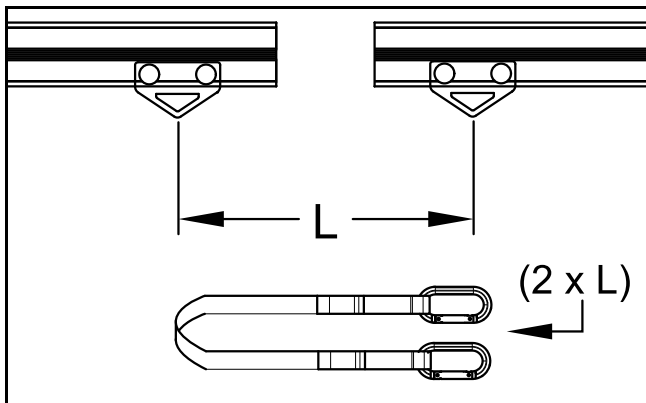

Fig. 15
An extension strap is required to perform the lift transfer from one rail to another. This strap must measure twice the length (L) separating the 2 trolleys involved in the transfer (see Fig. 15).